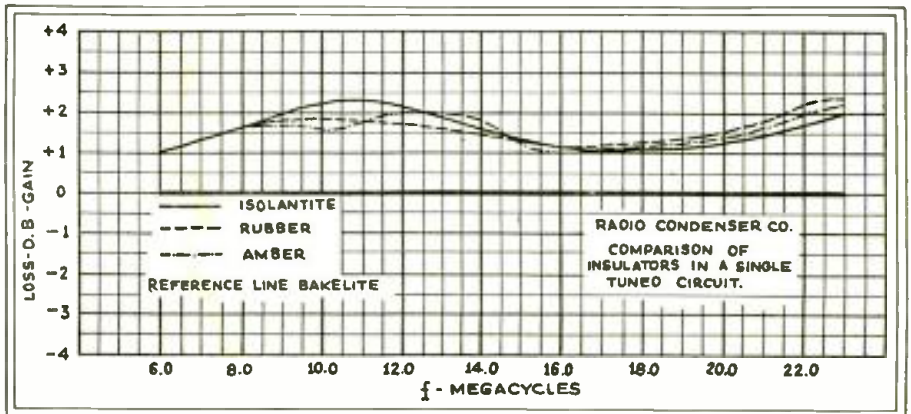

Fig. 2—Graph showing efficiency of different insulators at various frequencies.
Key to Fig. 2, panel drilling template. Holes No. (1), (2), (3), holes for Cardwell tuning condenser; (4), ant. condenser; (5), regeneration control; (6), filament switch; (7), filament rheostat; (8), head-set binding posts; (9), mounting screws for holding panel upright.